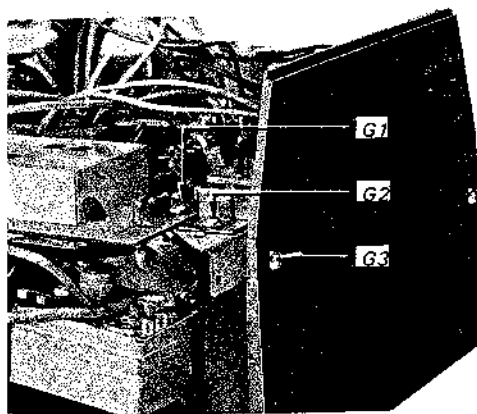

Fig. 2-12.
3. Remove the three screws labeled G1 - G3 in Fig. 2-12.